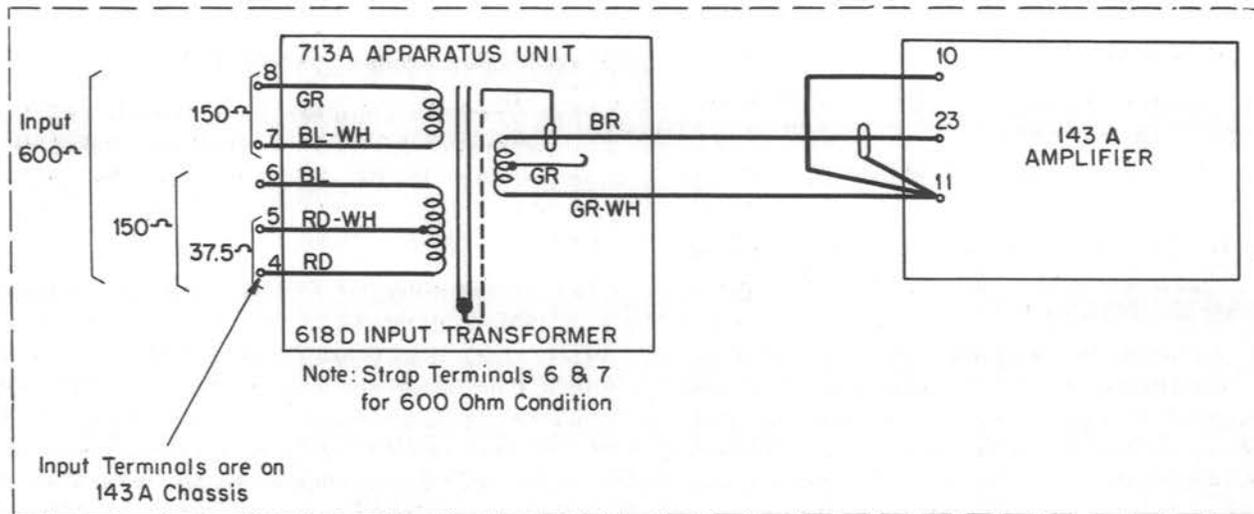

Fig. 6 — 143C Amplifier — Block Diagram
**2.21** Figs. 10 and 11 are wiring diagrams of the basic or 143A amplifier, and Fig. 12 is a wiring diagram of the input circuit of the 143B amplifier. This is actually a diagram of the 141A amplifier. Fig. 6 is a block diagram of the 143C amplifier.
**(F) Operating Voltage Measurements**